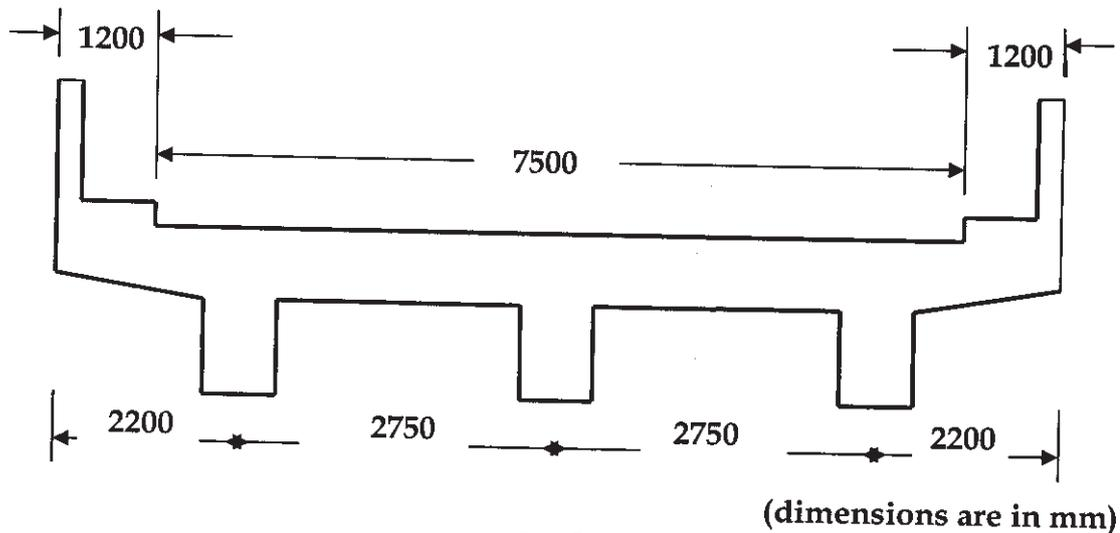

Fig.3
- Q3)** Design the Reinforced Concrete deck slab for the reinforced concrete T-Beam deck slab bridge shown in fig. 3 with the following details. [25]